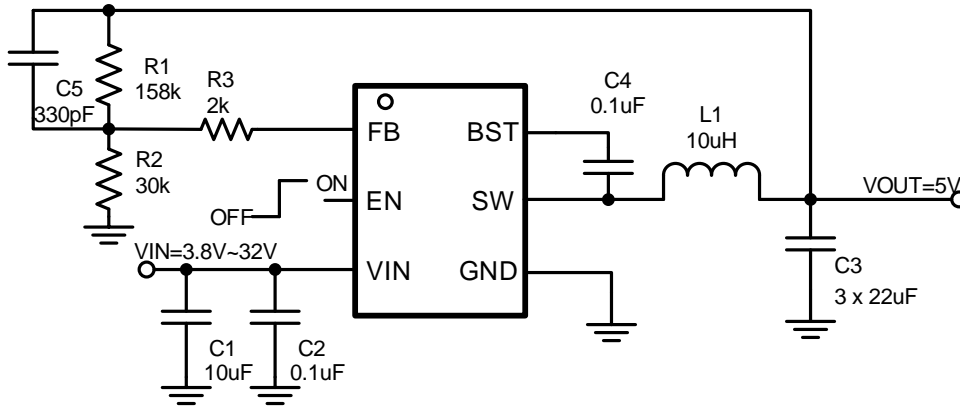

Figure 15. 24V Input, 5V/3A Output
The SCT2339 features external programmable output voltage by using a resistor divider network R1 and R2 as shown in the typical application circuit Figure15. Use equation (11) to calculate the resistor divider values.